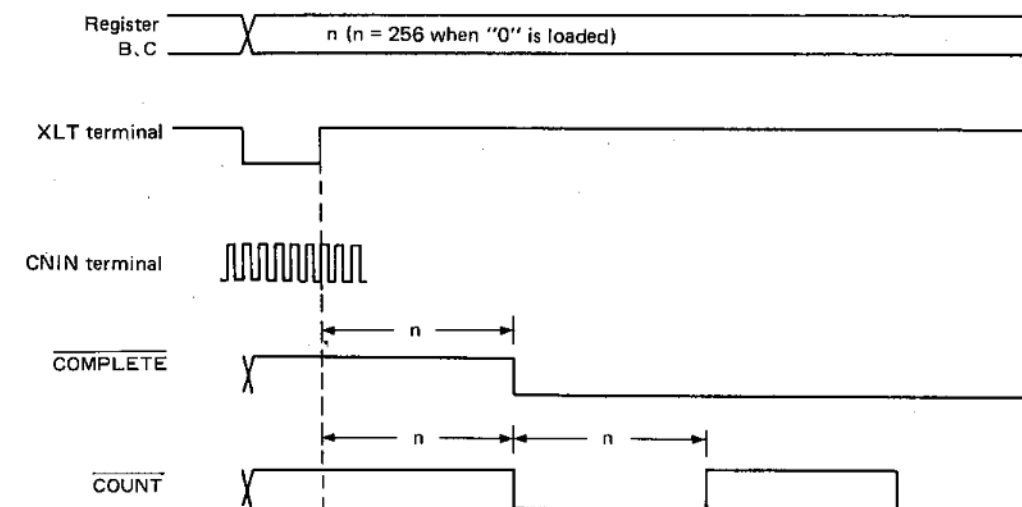

Fig. 6-3 Tracking counter timing chart
The tracking counter timing chart is shown in Fig. 6-3.
1. COMPLETE : Address is "B"; Shown in Fig. 6-3.
2. COUNT : Address is "C"; Shown in Fig. 6-3.